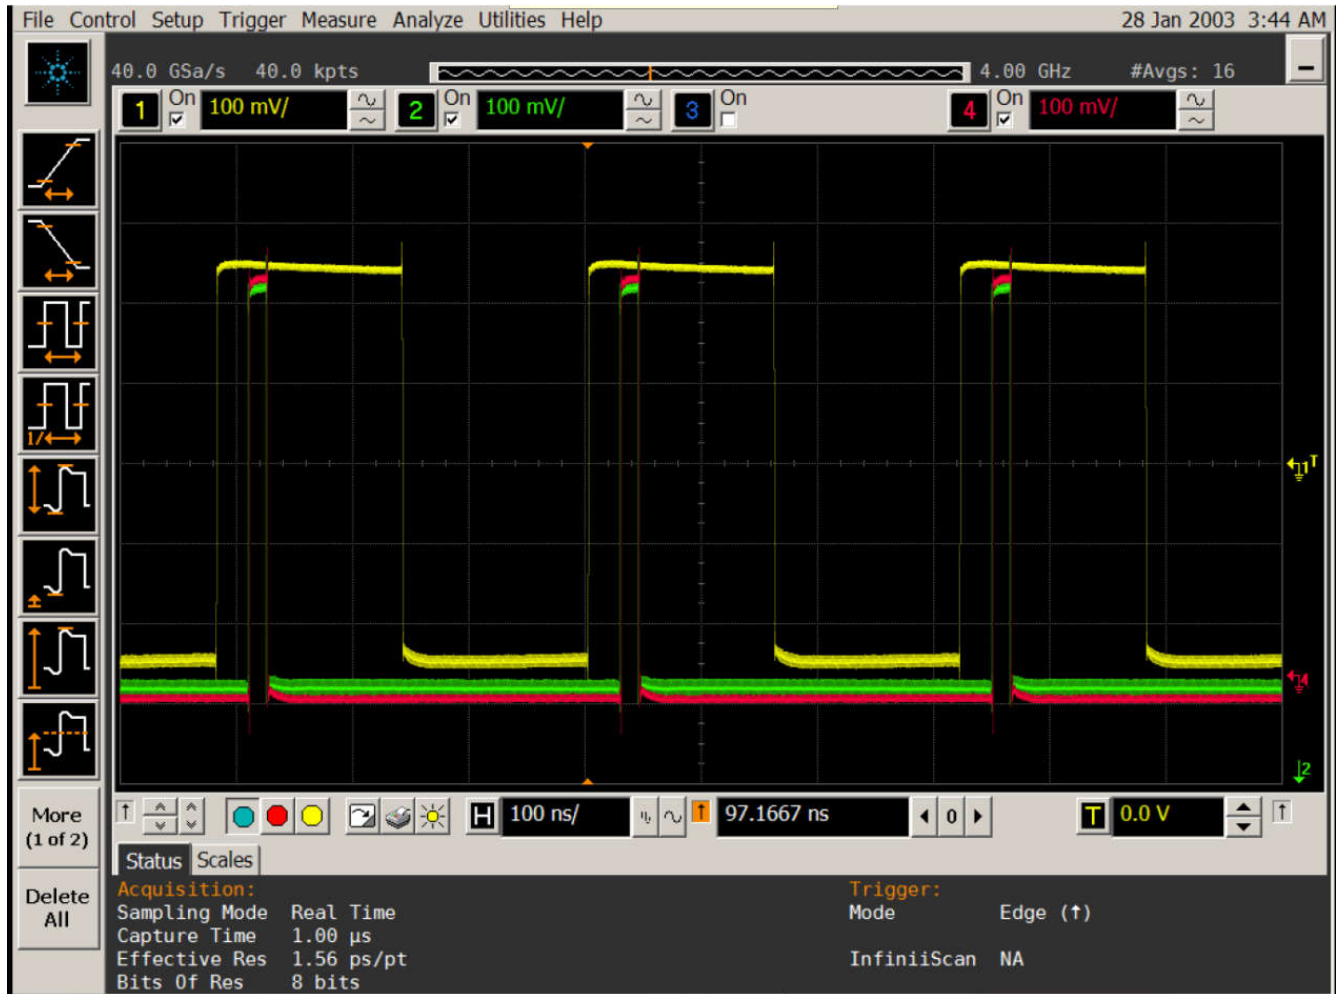

Figure 4-1. Synced Waveforms for Secondary1, and Secondary2 in Pulse Mode with Primary in Continuous Mode.
3. Figure 4-1 shows the 1 pulse output on Secondary1 sysrefout2_p(red) and Secondary2 sysrefout2_p(green).